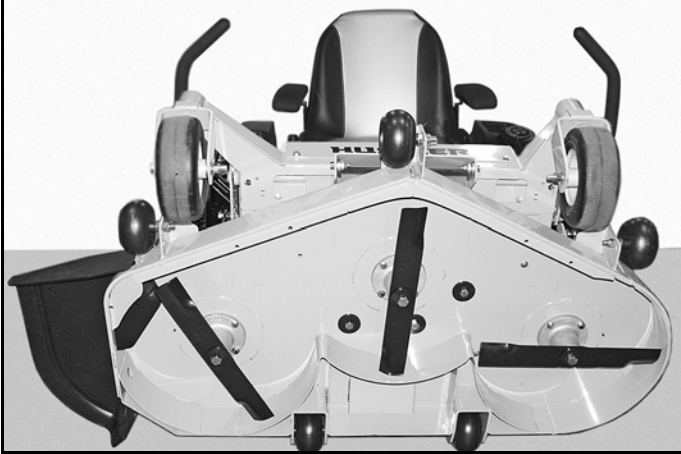

Figure 3-15
8. Push the deck lift switch (Figure 3-9) down on the back side and hold until the deck is in the fully raised position. Figure 3-15
9. The deck is now in the service (flipped up) position. Figure 3-15